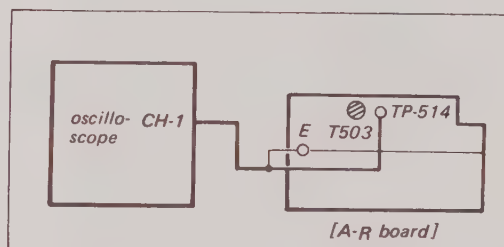

Fig. 8-14. Color APC adjustment test setup (1)
1. Connect the scope to TP-514 on the A-R board. See Fig. 8-14.